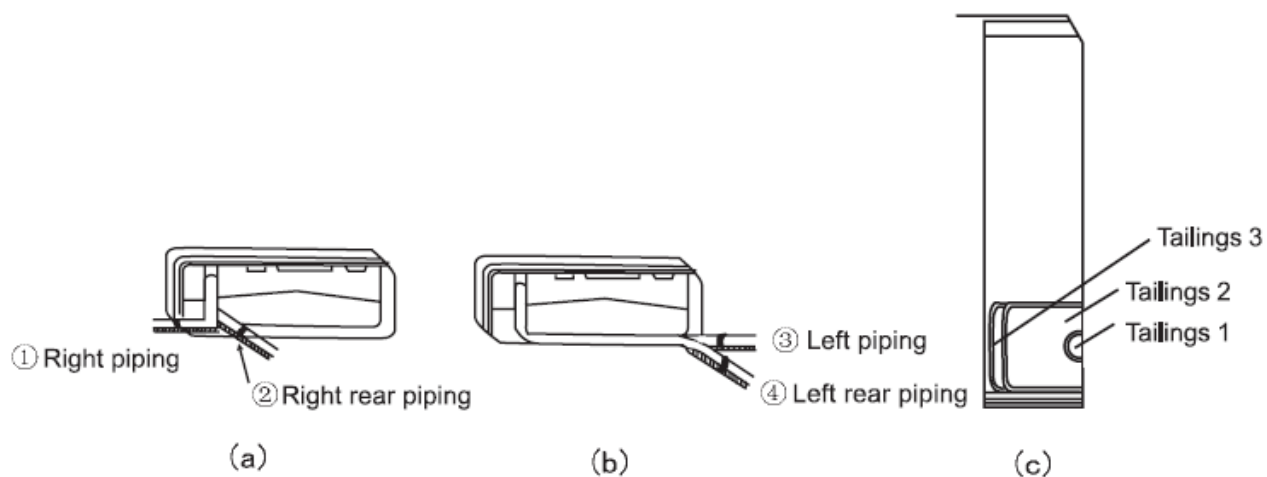

Fig. 4
1. When routing the piping and wiring from the left or right side of the indoor unit, cut off the tailings from the chassis in necessary (shown in Fig.4 (a), (b) and (c)).
- (1) Cut off the tailings 1 when routing the wiring only.
- (2) Cut off the tailings 1 and tailings 2 (or tailings 1, tailings 2 and tailings 3) when routing both the wiring and piping.
①, ②, and ③ in Fig. 4 are the recommended piping.